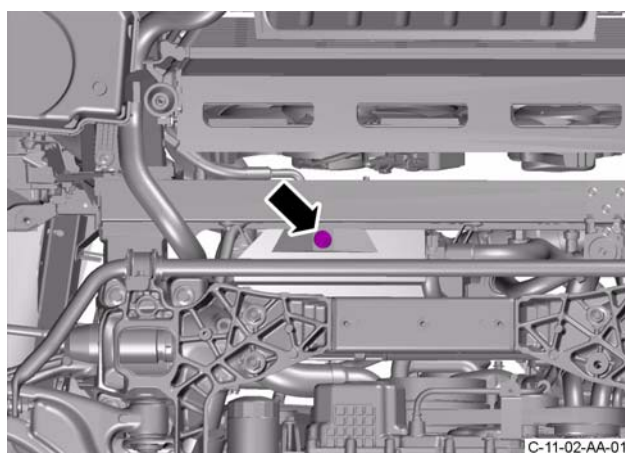

Figure 1
8. Install and tighten the drain plug into the oil tank (refer to Figure 1).